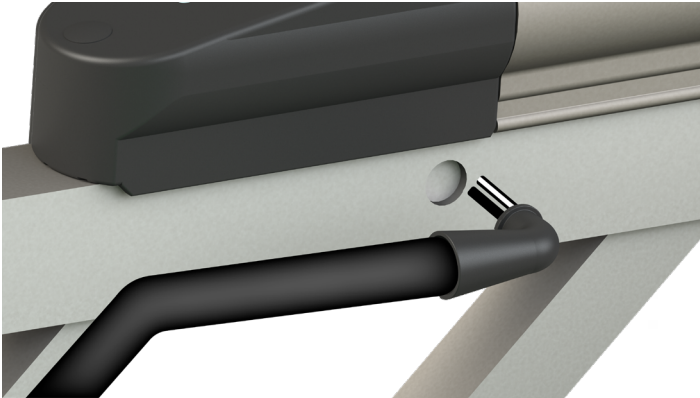

Fig.32
- C.** Thread the battery receiver cord power wires up through the side fence railing's wire access hole (Fig.32).